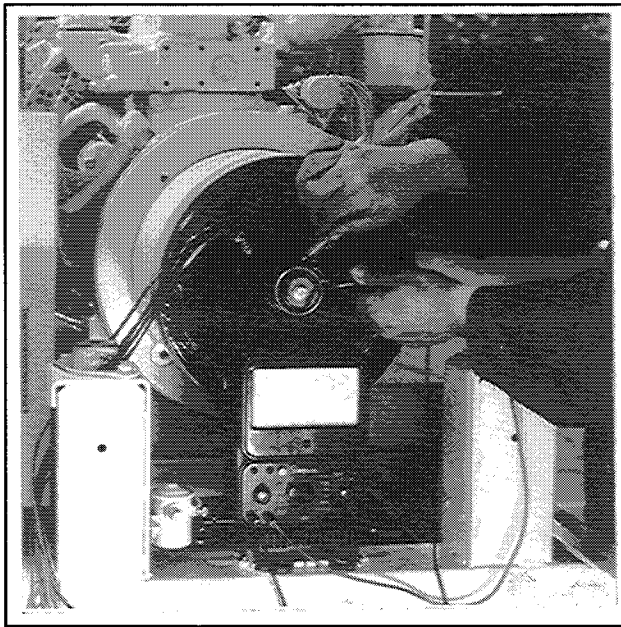

Figure 7-8. Rotor Resistance Check
2. Check the rotor for continuity and resistance. Measure the rotor resistance (ohms) between the two slip rings (Figure 7-8). Raise the brushes from the slip rings while performing ohmmeter tests. See Section 10 Specifications for rotor resistance readings. If the resistance test proves inconclusive, perform megohmmeter test on rotor as described in next step.